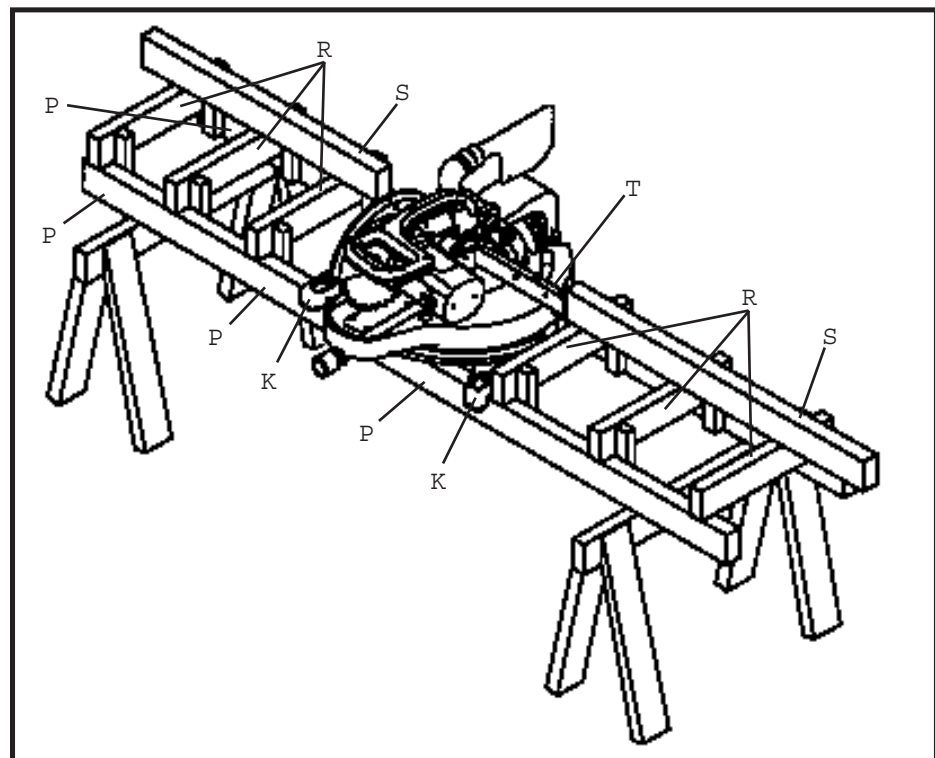

Fig. 38
Fig. 38 illustrates the saw being used with 2 x 4 extensions. Note that notches in the front and rear of the mounting feet (K) are designed to fit and fasten to the top of the two 2 x 4 s (P). The length of the two 2 x 4 s (P) can vary depending on your preference. The distance from the top of the 2 x 4 s (P) to the saw table is 3¹/₂".. 2". This enables you to nail or fasten standard 2 x 4 s (R) to the 2 x 4 s (P), as shown. The top of the 2 x 4 s (R) will then be in alignment with the saw table, providing support for long workpieces. If desired, fence extensions (S) made of 2 x 2 s can be aligned with fence (T) and bolted to 2 x 4 s (R).